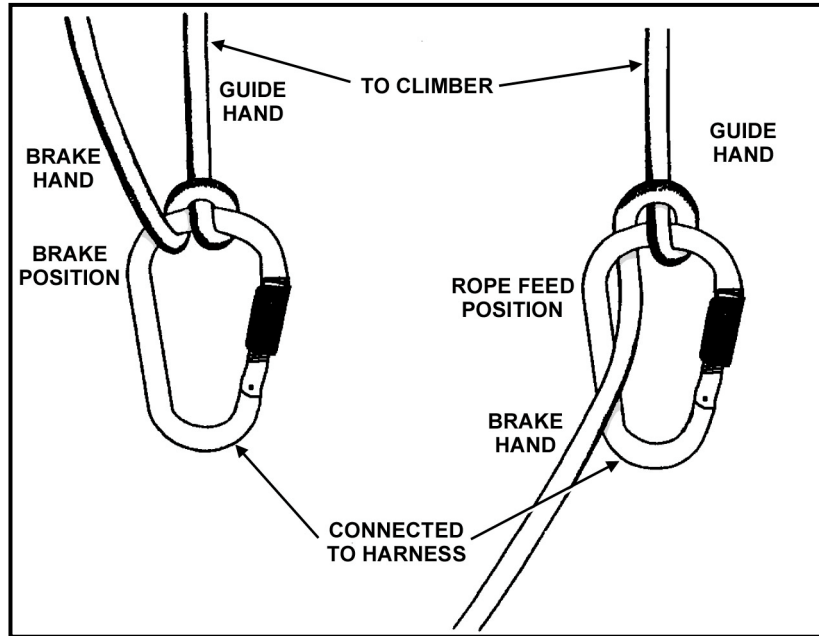

Figure 6-25. Munter hitch.
(1) **Munter Hitch.** The Munter hitch is an excellent mechanical belay technique and requires only a rope and a carabiner (Figure 6-25, page 6-38). The Munter is actually a two-way friction hitch. The Munter hitch will flip back and forth through the carabiner as the belayer switches from giving slack to taking up rope. The carabiner must be large enough, and of the proper design, to allow this function. The locking pear-shaped carabiner, or pearabiner, is designed for the Munter hitch.